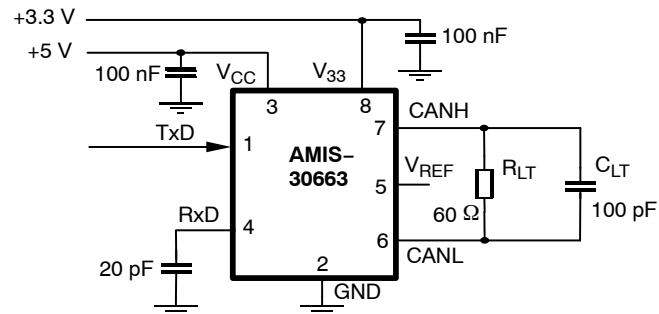

Figure 6. Test Circuit for Timing Characteristics
**Timing Characteristics** (see Figures 6 and 7)